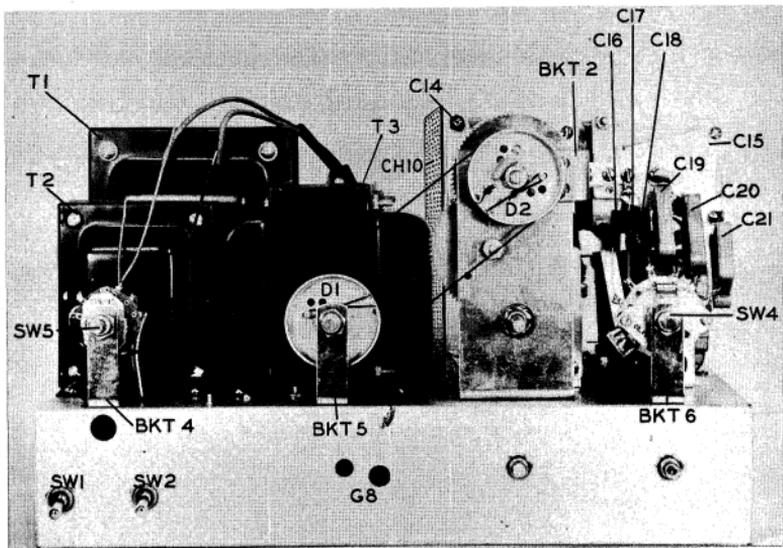

Figure 10
- A. 13. (✓) Mount BKT4, 5 and 6 (2" long and 5/8" wide "L" brackets) on the top of the chassis as shown in Figure 10 using the following sequence: 3/8" x 8-32 round head screw, bracket mounting foot, chassis, #6 shakeproof, 8-32 nut. The brackets should be flush with the front of the chassis. Center and tighten securely.
18. (✓) Mount SW5 (mode switch, phenolic wafer) in BKT4 using sequence G. Orient as shown in Figure 5 and tighten securely. See Figure 10.
19. (✓) Mount SW4 (output coupling, single ceramic wafer, switch) in BKT6 as shown using sequence G. See Figures 10 and 5.
37. (V) Mount the short end of BKT2 (6 3/4" long "L" bracket) as follows: 1/4" x 10-32 screw, #10 shakeproof, BKT2, BKT1. Do not tighten. See Figure 10.
38. (V) Hold the gear (part of BKT1) in position (meshed with the small gear) with the setscrews toward the rear of the chassis and insert the shaft of C14 (275E20 variable capacitor, 154-37-2) thru the gear and thru the bearing in BKT1.
39. (V) Mount C14 as follows: Front: 1/2" x 6-32 screw, depressed side of BKT2, C14 mounting foot, #6 shakeproof, 6-32 nut. Rear: 1/2" x 6-32 screw, 1" long "L" bracket, depressed side of BKT2, C14 mounting foot, #6 shakeproof, 6-32 nut. Tighten securely.
48. (L) Bend all teardrops up away from the chassis.
49. (L) Install a 9/16" O.D. rubber grommet in each hole of BKT9 (fan mounting bracket).
50. (L) Mount BKT9, under C15 with the mounting foot toward the rear of the chassis, as shown as follows: 1/4" x 6-32 screw, bracket foot, chassis, #6 shakeproof, 6-32 nut. Center carefully and tighten.
51. (L) Mount T3 (10 henry choke) as shown using the following sequence: 3/8" x 10-32 screws, choke mounting feet, chassis, #10 shakeproof, 10-32 nuts. Center and tighten securely. See Figure 10.
52. (L) Mount T1 (Plate transformer) as follows: Lay T1 on its side and place the chassis against it and secure with the following sequence: 3/8" x 1/4"-20 screws, 1/4" flatwasher, T1 mounting foot, chassis, 1/4" lockwashers, 1/4"-20 nuts. Position T1 so it is flush with the rear of the chassis and tighten securely.
53. (L) Mount T2 (filament transformer) with the green leads toward the front of the chassis using the same sequence as with T3.